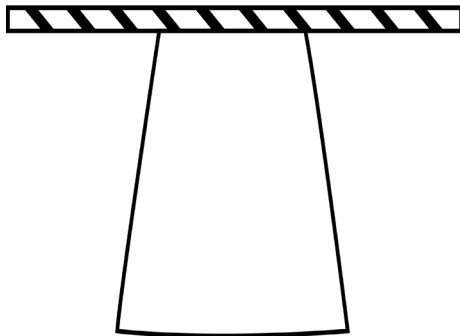

Figure 13. Paper cup used as a thrust structure.
1. Build a thrust structure model that will deform. Launch it, look at the deformation, and then load up an identical model with enough weight to achieve the same deformation. For example, glue a paper cup onto the cardboard square (Figure 13).